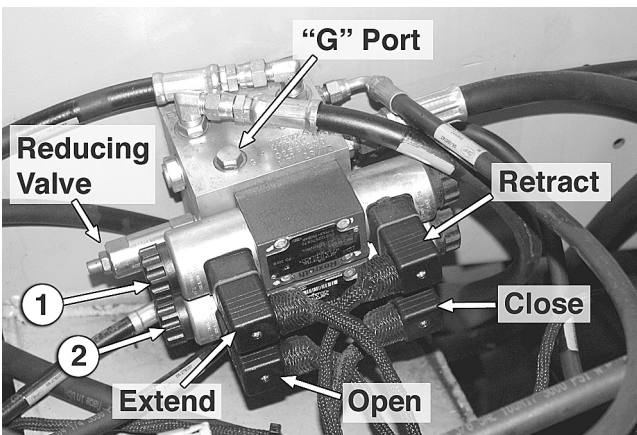

Figure 19. Right Gate Solenoid
4. To insure that the gates are fully closed, swap the connectors on the open and close solenoid valve (Fig 19) and restart the engine. Depress the gate override button which will fully close the gates. While holding the override button down, shut the engine off. There should be 1/16” between each gate and its spread roll.